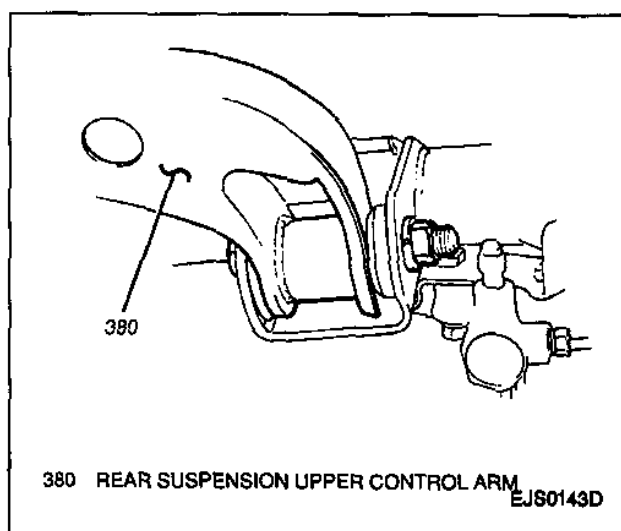

Figure 15—Rear Suspension Upper Control Arm
6. Upper control arm through bolts and nuts; remove rear suspension upper control arm from body (Figure 15).